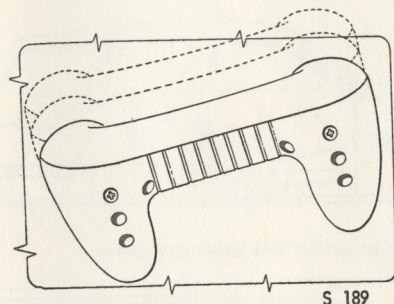

Figure 7. Arm rest
18. Armrest. This can be adjusted to three different positions by means of the fastening screws. See Figure 7.